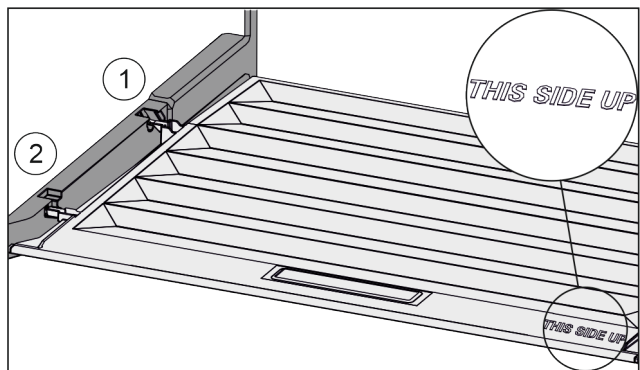

Fig. 108
- ▶ Insert the lip of the cover over the opening of the rear bracket Fig. 108 (1) and click into place Fig. 108 (2).